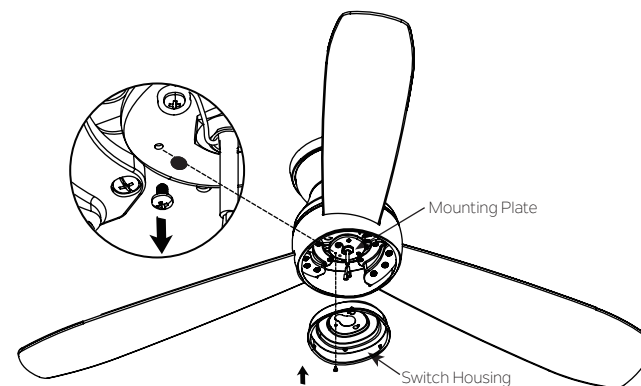

Fig. 14
Step 1. Remove the screw marked with a dot label on the mounting plate and save for later use, and slightly loosen the other two screws. Attach the switch housing to mounting plate using the two key slots in the switch housing. Replace the previously removed screw and securely tighten all 3 screws. (Fig. 14)